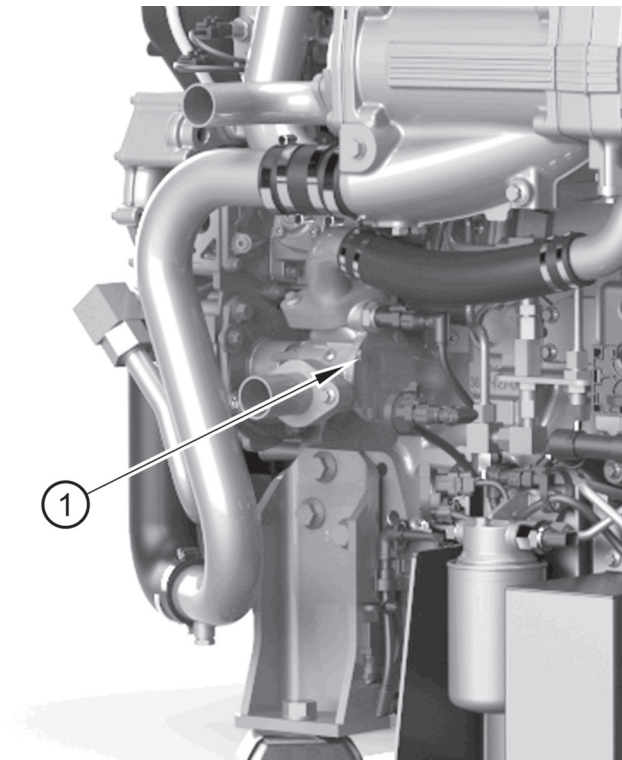

Figure 10
3. Remove the auxiliary pump endplate by unscrewing the 4 retaining bolts (figure 10 item 1) and allow the water to drain into a suitable container.